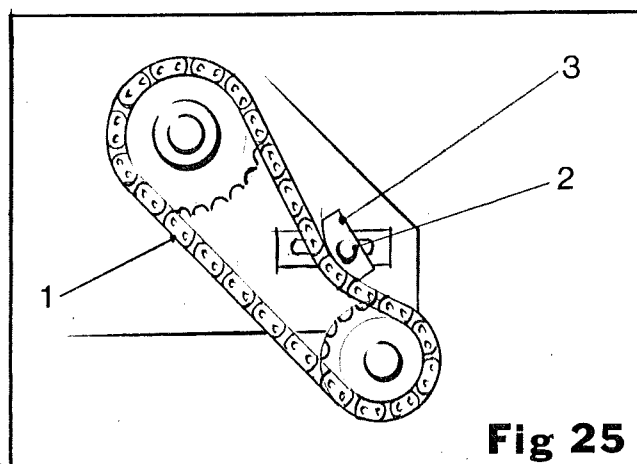

Fig 25
The separating belt drive is taken from the feed web drive shaft via two sprockets and a drive chain (item 1, fig 25), and then from the bottom drive shaft the drive is taken up the right hand side of the separating belt to the top drive shaft by two pulleys and a vee belt.
To adjust the first drive chain (item 1, fig 25) slacken the securing bolt (item 2, fig 25) and slide the adjusting block (item 3, fig 25).